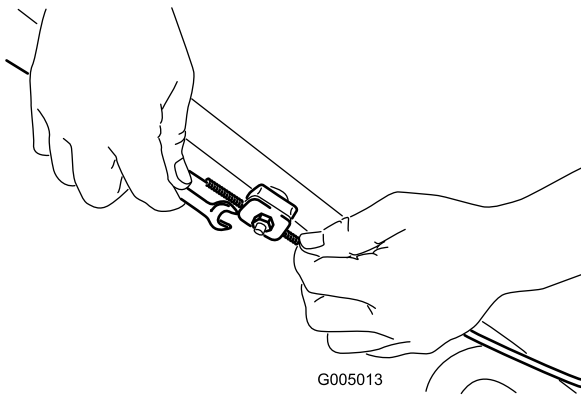

Figure 20
1. Loosen the cable support nut (Figure 20).